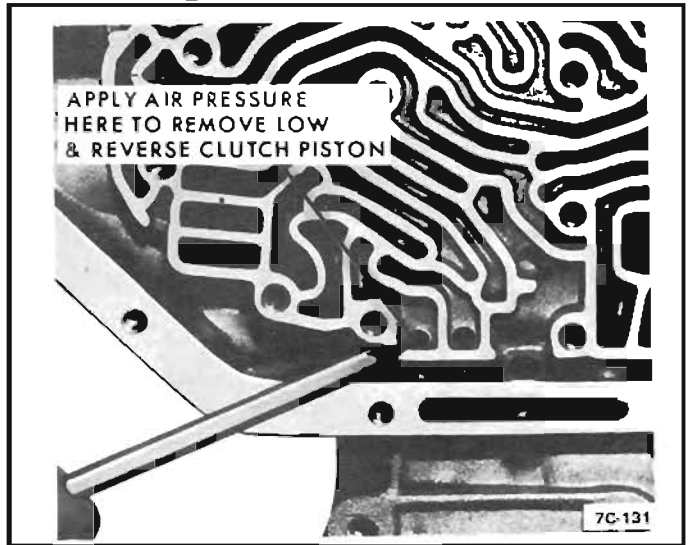

Figure 42 Location of Air Pressure
2. Remove low and reverse clutch piston assembly. Aid removal with the use of compressed air in passage shown. See Figure 42.